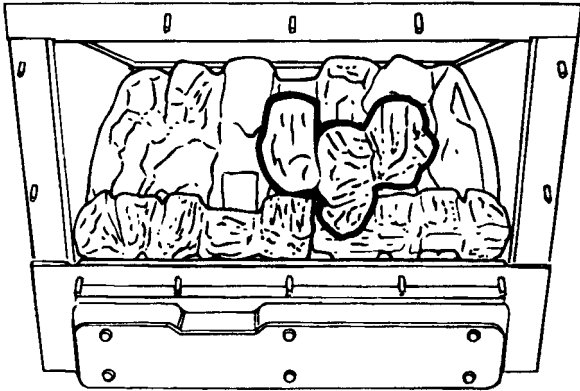

Figure 8. Rear right coal "D" Location.
3.3.5 Place the rear right coal (embossed 'D' underneath) in position as shown in figure 8.